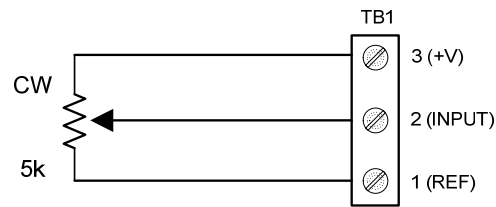
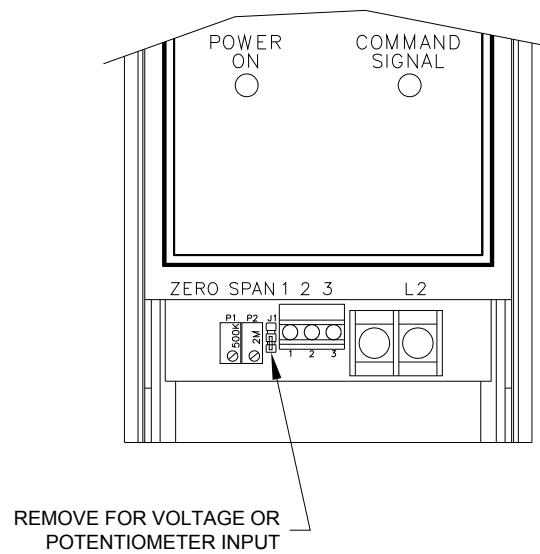

Figure 2.2 Potentiometer Input Connections
Figure 3.1 Adjustment Locations
HDR's SCPF1 SSR Power Controllers have the capability of having a current, voltage or potentiometer Command Signal input. For current command (4-20 mA) connected the process controller across terminals 1 and 2, for voltage command remove jumper in Figure 3.1.
Some applications only require a manual control input and not a closed loop input from a process controller. This potentiometer may be located on a remote panel near other controls related to the process being powered by the SCZF1. Connect a potentiometer rated 500 ohms to 5 k Ω , 1/2 Watt minimum as in Figure 2.2 or the schematic in Appendix A. Remove jumper in Figure 3.1.
a setup be required use the following methods. (Note: Adjustments requires a jeweler's screw driver for multi-turn bias & gain adjustments.) If using voltage input remove jumper in Figure 3.1.
- a. With the power to the SCZF1 turned off, connect the potentiometer as shown in Figure 2.2. The CW position is the full power output position.
- b. Remove jumper next to Span potentiometer, Reference Figure 3.1.